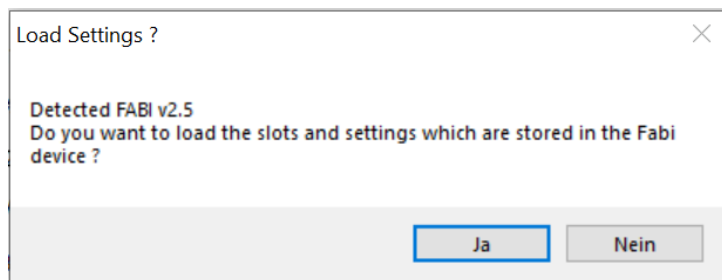

Figure 2: The program has been successfully connected to the microcontroller port
2. Select a **COM port** and click on the "**Connect**" button on the right side of the selection box. Once the device has been successfully connected, a dialog will appear on the screen showing the device version and allowing you to load the current settings from the FABI device. If you want to do this, click "Yes" - otherwise the suggested default settings will be retained (see Figure 2).